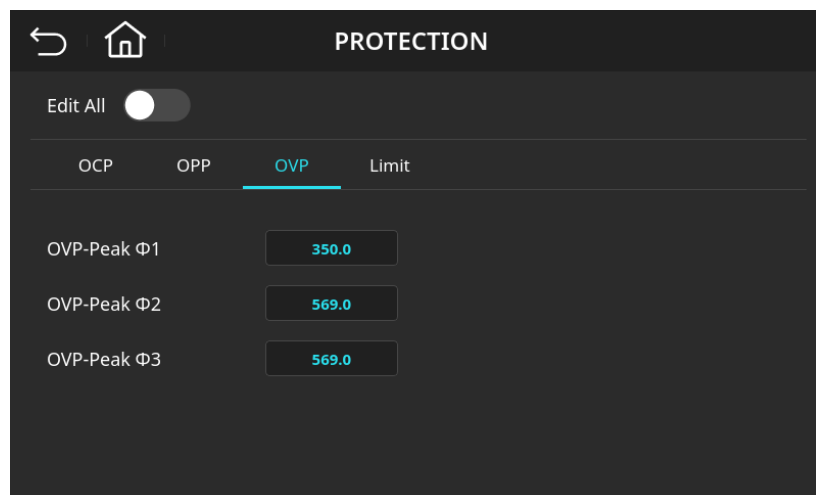

Figure 4-56 Output Overvoltage Protection Page (OVP-Peak $\Phi 1 = 350\text{ V}$)
4. Enter , , then press  to change the value to “350.0”, as shown in Figure 4-56.